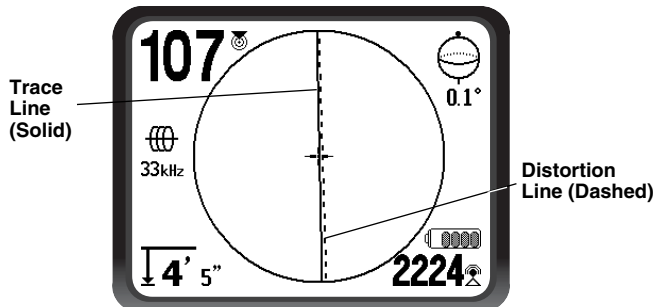

Figure 27 – High Probability Locate
signal. (See Figure 27 below). The signal should peak over the line and drop off on either side. The Signal Angle indicator will be near zero when the NaviTrack II is directly above the line.
- When tracing, the direction the pipe or cable is running will be shown on the screen with 2 lines, one solid and one dashed. The solid line (the Tracing line) is the signal as seen by the lower antenna node and the dashed line (the Distortion Line) is the signal as seen by the upper one. (See Figure 27.)